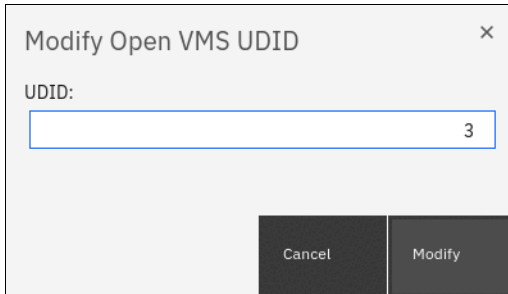

Figure 6-55 Setting the volume UDID
2. Specify the UDID for the volume and click **Modify**, as shown in Figure 6-55 on page 357.